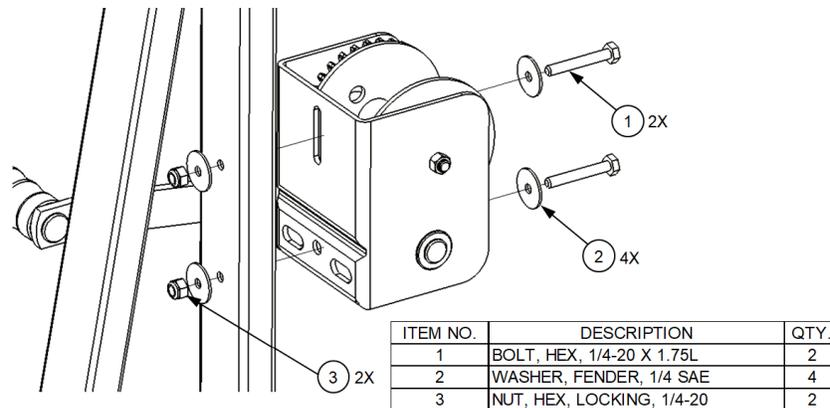

Figure 4
### Winch Installation (Figure 4)
3. Position the Winch and insert hardware as shown in figure 4.